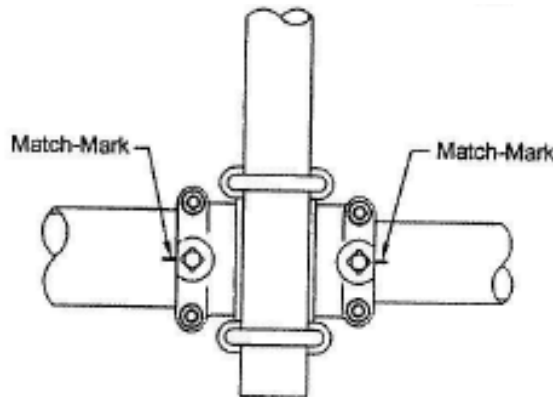

Figure 11: Match-Marked Hinge Clamp and Pipe
- Adjust “lead” by elevating the Blade slightly - **Figure 11**.